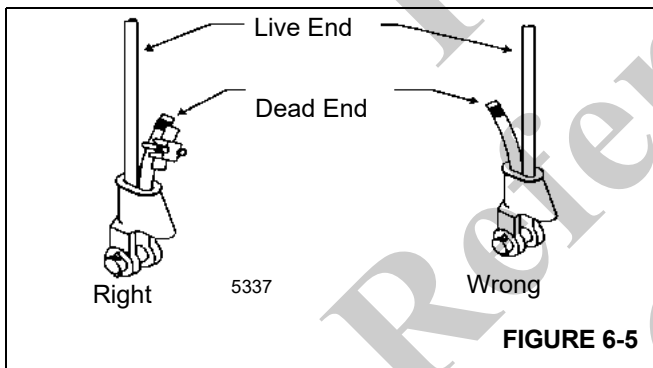

FIGURE 6-5
3. Make sure the live-loaded side (Figure 6-5) of the rope is directly in line with the ears of the socket and the direction of pull to which the rope will be subjected. If the rope is loaded into the socket incorrectly, under a load the rope will bend as it leaves the socket, and the edge of the socket will wear into the rope causing damage to the rope and eventual failure.
4. Insert the end of a wire rope into the socket, form a loop in the rope, and route the rope back through the socket allowing the "dead" end (Figure 6-5) to protrude from the socket. Ensure the dead end of the rope is of sufficient length to apply end treatment to the dead end after the wedge has been seated.